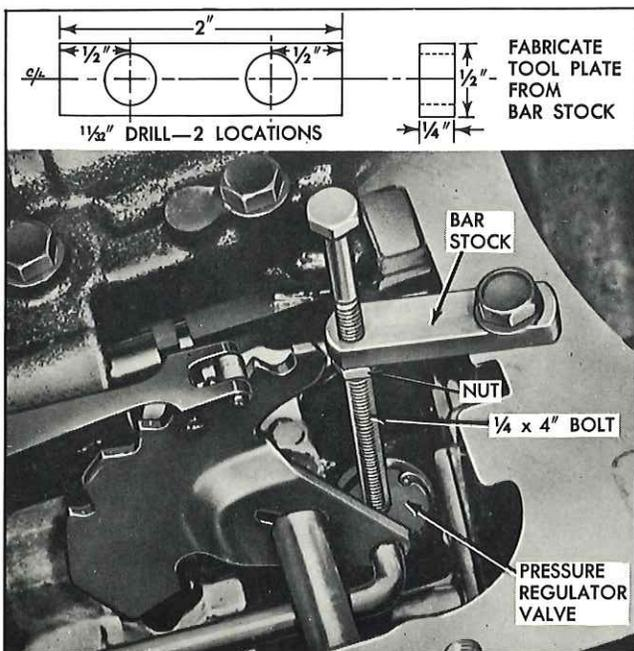

Fig. 12—Removing Pressure Regulator Valve, using Special Tool
A special tool has been developed to facilitate in-car removal of the pressure regulator valve, boost valve and sleeve assembly from the Turbo Hydra-Matic transmission. This tool can be easily fabricated in the dealership by selecting a piece of bar stock approximately  $\frac{1}{4}$ " x  $\frac{1}{2}$ " x 2" and in it drilling two  $\frac{1}{32}$ " thru holes—1" apart (see upper portion of Figure 12). In one of the drilled holes insert a  $\frac{1}{4}$ " bolt that is 4" long and has approximately 3" thread length, then run a nut onto the bolt and the tool is ready for use.
1. Attach the tool plate to the transmission case using a transmission pan bolt (see Figure 12).